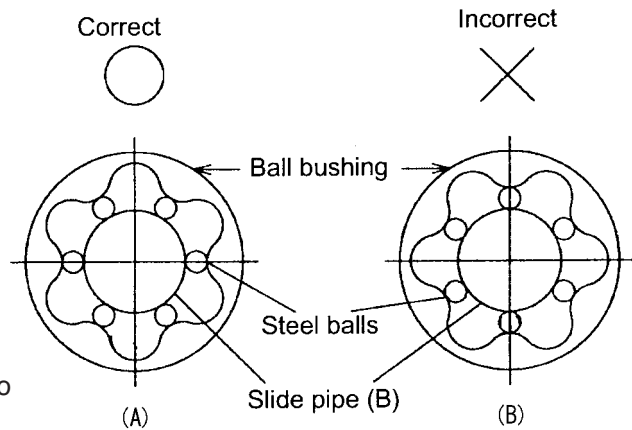

Fig. 73
(3) Reassembly of the ball bushing
The Ball Bushing [144], Holder (A) [145] and Hinge (A) [173] are maintained at a smooth fit. When placing the Ball Bushing [144] into Holder (A) [145] and Hinge (A) [173] gently hammer it with a plastic hammer so that the Ball Bushing [144] is seated into Holder (A) [145] and Hinge (A) [173] in parallel. After reassembly, lubricate around the steel balls inside the Ball Bushing [144] with 2 grams of Nippeco SEP 3A grease. Apply machine oil to Slide Pipe (A) [149] and Slide Pipe (B) [166]. When reassembling, put the Ball Bushing [144] inside Holder (A) [145] and Hinge (A) [173] as indicated in (A) of Fig. 73. Visual observation will do for this insertion. Layout in (A) offers about 30% higher rated load in (B).